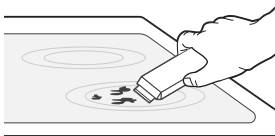

Figure 4.1
- If any food spills on the burner surface, immediately use a metal razor scraper to remove the food or burned-on residue. This is more effective if the cooktop is still warm. **[Figure 4.1]**